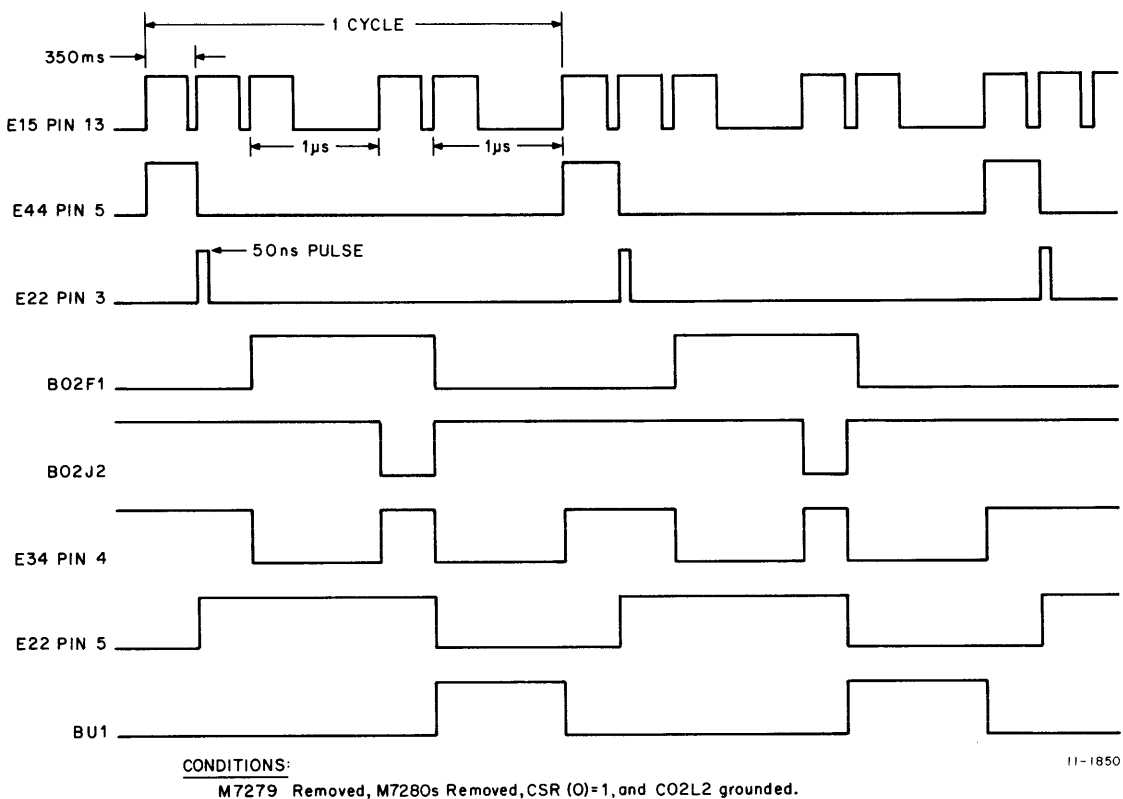

Figure 5-6 Receive Scan Timing, Waveform No. 2
5. Replace power and reset CSR (0). Refer to Figure 5-6 and verify all pulses illustrated. If any signals do not appear, further troubleshooting is required from these points. If all pulses are found and trouble still persists, refer to the schematics on either the M7280 board or the Silo board, M7279.